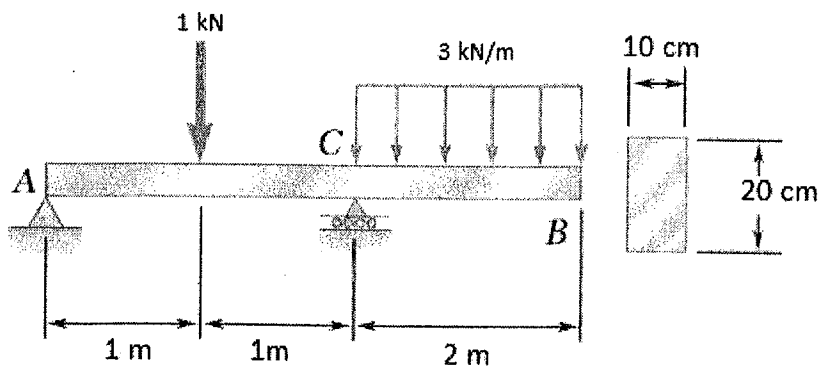

Figure 4(a)
4. Draw the shear and bending-moment diagrams for the rectangular beam and loading shown in Figure 4(a). Hence, determine the maximum normal stress due to bending on a transverse section at C. (25 marks)